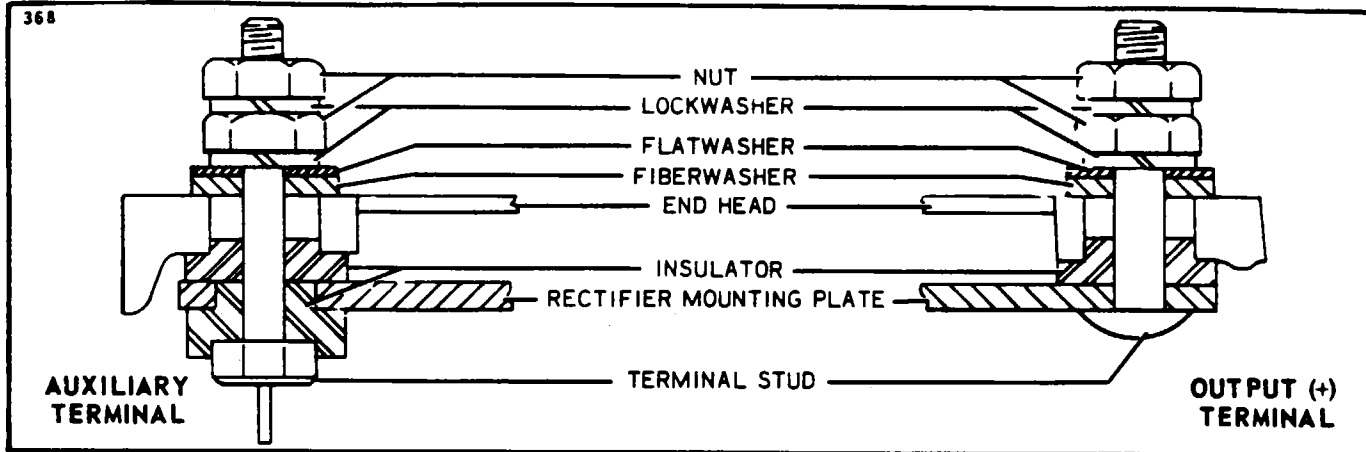

Figure 11-13. Terminal Assembly (Prestolite)
c. Reassemble the rectifier mounting plate studs and insulators, making sure they are in the correct order. (Refer to Figure 11-13.)